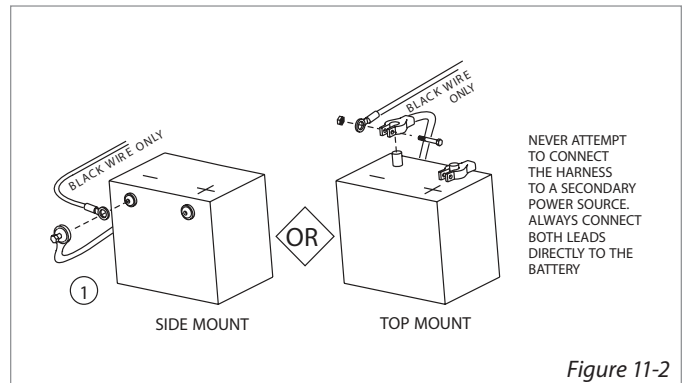

Figure 11-2
2. Route the wire harness beginning at the battery. Attach the black wire to the negative terminal on the battery. [Figure 11-2]